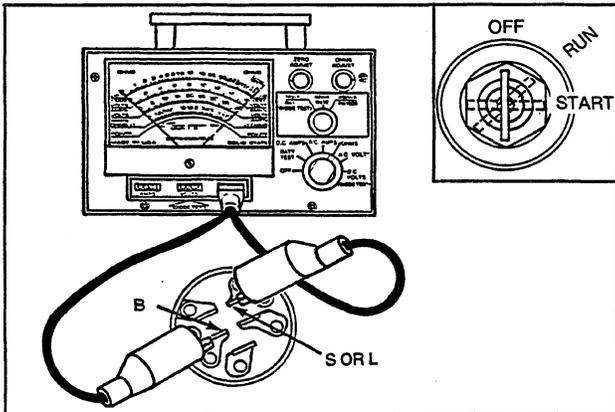

Fig. 45 — Checking Anti-Afterfire Solenoid Switch
To test carburetor Anti-Afterfire solenoid switch connect V.O.A. meter, Tool #19236 to battery terminal (B) and carburetor solenoid terminal, (L or S) Fig. 45. Contact surfaces must be free of paint, rust, or dirt.
With key in "OFF" position there should be no continuity. With key in "RUN" and "START" position there should be continuity, Fig. 45.